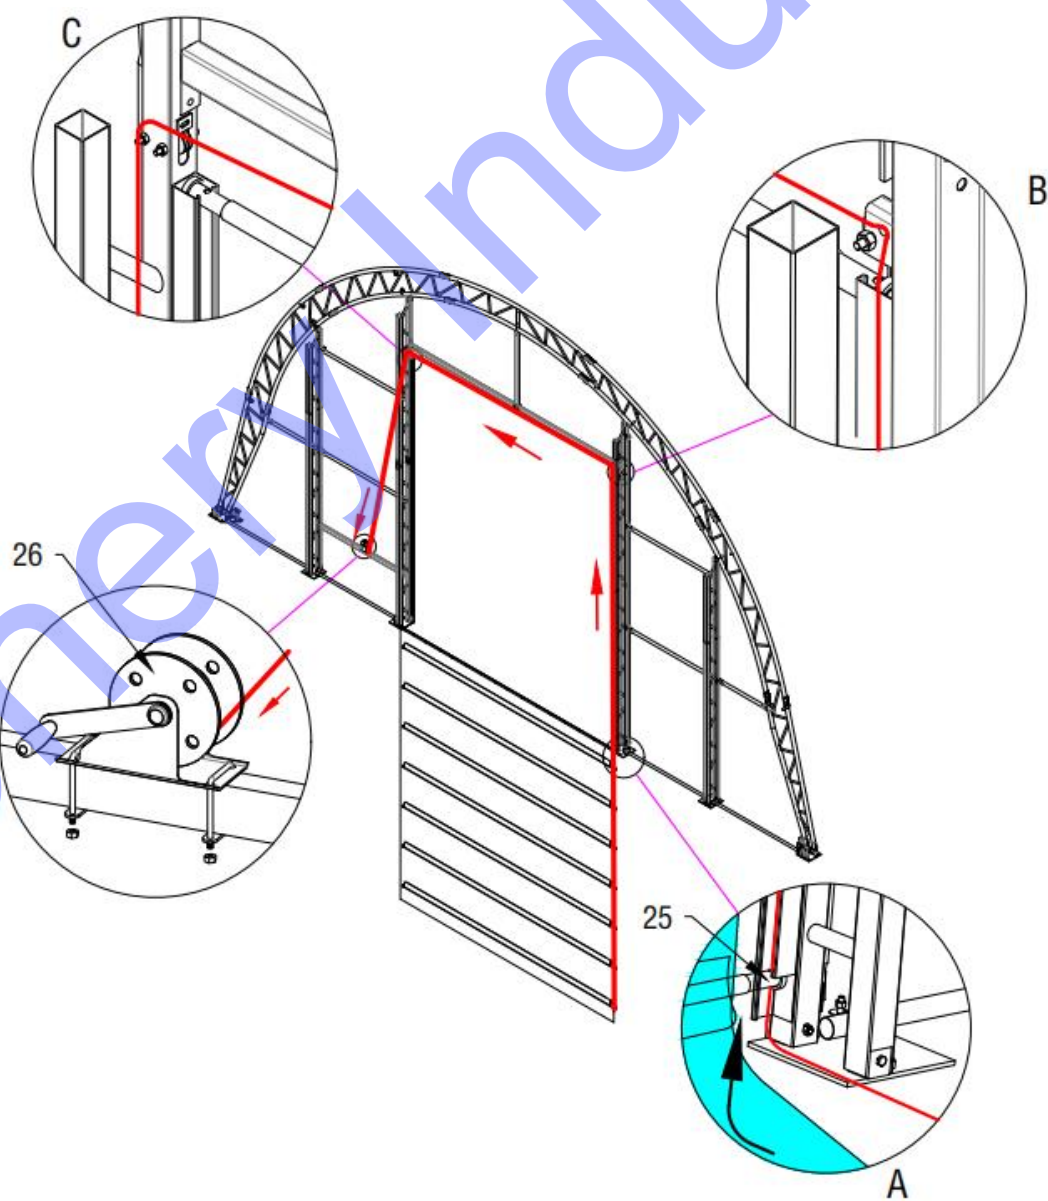

Figure 19
6. When you close the door ,we can use the Lock steel wire for door(No.26) and Lock steel wire for the wrench handle to fix.(Figure 19)